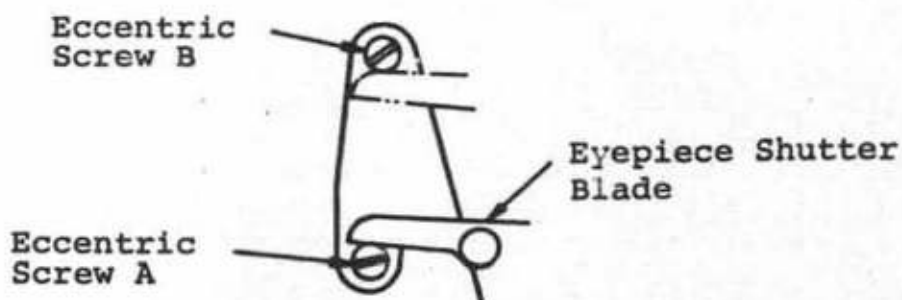

Fig. 2-26
4. With the ME mechanism set as described in step 3, it should be possible to push the winding reset lever in the "A" direction as shown in figure 2-26.
7. Adjust step 4 and step 6 with the eccentric screw shown in figure 2-26.